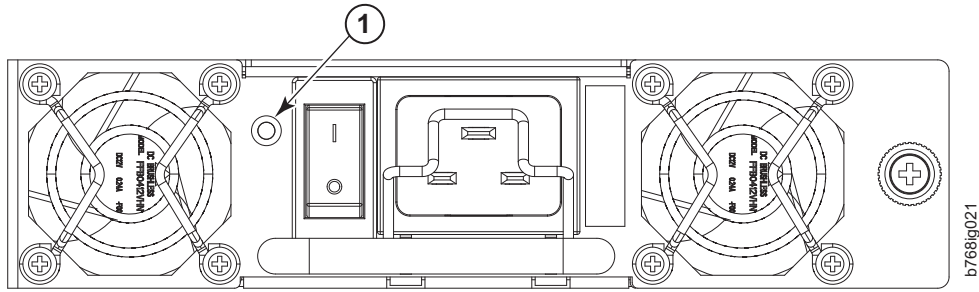

Figure 26. Power supply LEDs
1. Check the LED indicator on the power supply (see Figure 26 on page 64). The LED patterns may temporarily change during POST and other diagnostic tests; for information about how to interpret the LED patterns, see Table 9 on page 64.